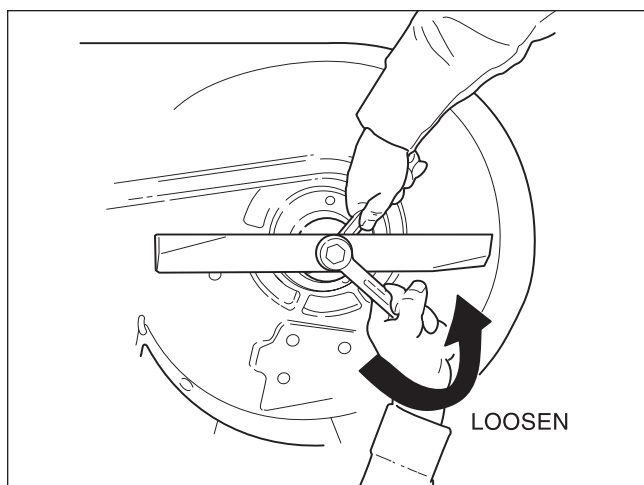

Figure 22. Removing the Blade
2. To remove blade for sharpening, use a 1" wrench on the flats of the spindle shaft while removing the blade mounting bolt with a 15/16" wrench (Figure 22).